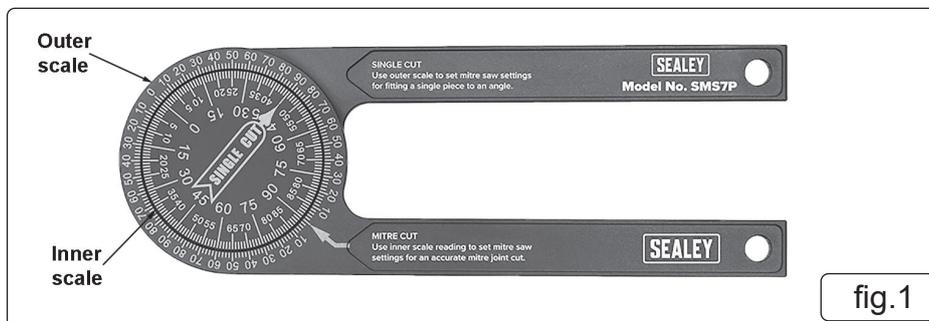

fig. 1
- 4.1.2. Read the angle on the outer scale (fig 1).
- 4.2.2. Read the angle on the inner scale (fig 1).
- 4.3.2. Note the angle value on the inner scale (fig 1).